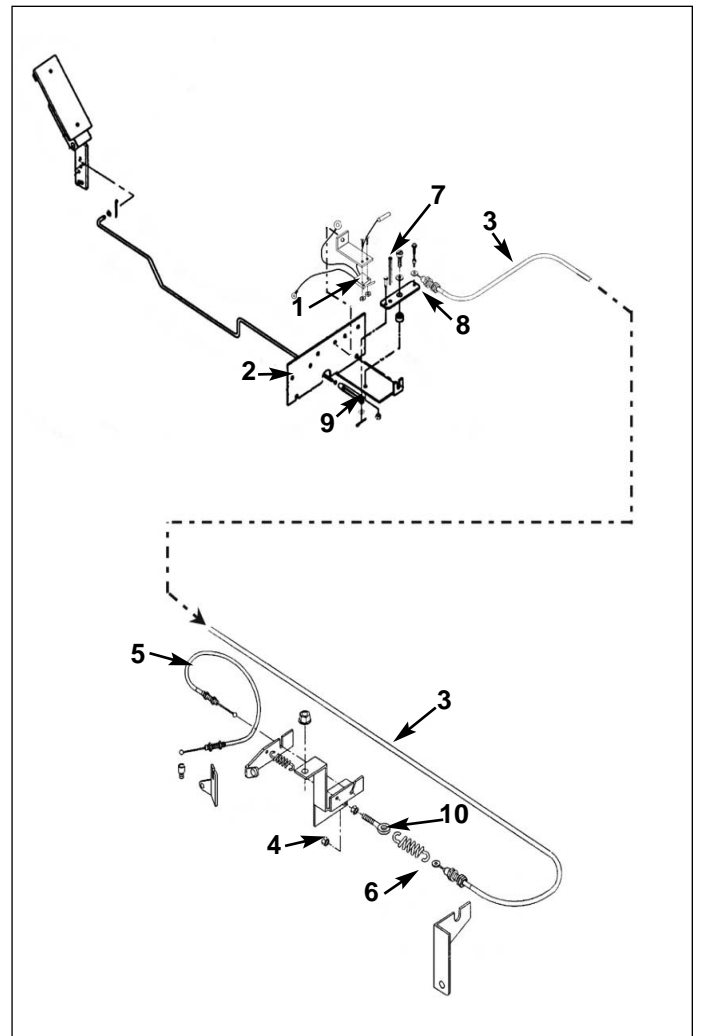

Figure 10 - Accelerator Linkage and Accelerator
1. Micro switch (Figure 10, #1) clicks, energizing solenoid.
1. As accelerator pedal is depressed, the long accelerator cable will begin to pull the governor spring and governor arm towards the rear of the vehicle. See Figure 10 (#4 and #6). The accelerator cable must not have slack or free play.
There should be 1/8-1/4" of slack between throttle cable ball and governor bracket (Figure 10, #4). This slack ensures that micro switch activates before carburetor opens.
In Figure 10, this system consists of an accelerator pedal with linkage, micro switch (#1), electrical panel (#2), accelerator cable (#3), governor spring (#6), governor arm (#4), and throttle cable (#5).